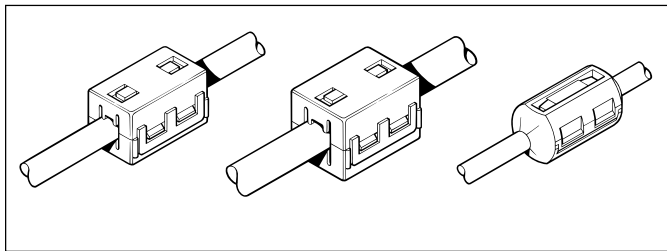

Fig. 2-9
- A "suppression ferrite" may be attached to one of the cables. See Fig. 2-9. If you must remove the ferrite during installation, be sure to reassemble it in the same position.